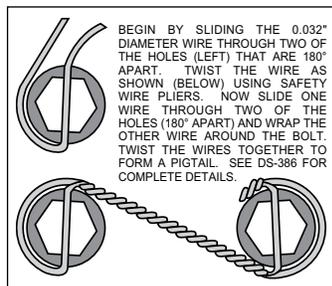
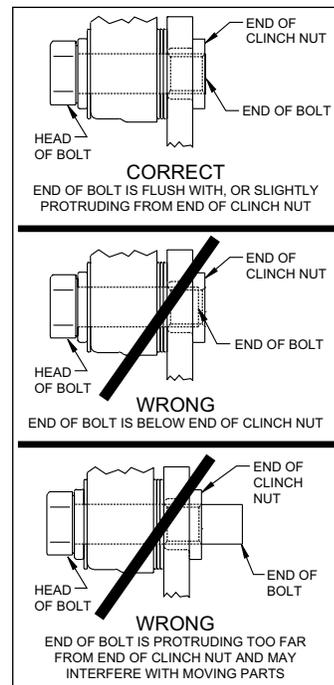

Figure 2. Safety Wire Diagram
Figure 3. Clinch Nut Engagement Diagram
CAUTION: All mounting bolts must fully engage clinch nuts. Be sure to check that all bolts are either flush or protruding through flanged side of clinch nut after shimming, Figure 3.
- Safety wire bolts using standard 0.032 inch diameter stainless steel safety wire as shown in Figure 2. Please refer to Wilwood's data sheet DS-386 (available at www.wilwood.com/Pdf/DataSheets/ds386.pdf) for complete safety wire installation instructions.
on each of the two mounting bolts. **NOTE:** The end of each bolt must be flush with or slightly protruding from the head of the clinch nut. If necessary, place spare shims between washer (9) and caliper mounting ear to achieve the proper clinch nut engagement, as shown in Figure 3. Once the caliper alignment and clinch nut engagement are correct, remove the bolts one at a time, apply red *Loctite*® 271 to the threads, and torque to 40 ft-lb. Safety wire bolts using standard 0.032 inch diameter stainless steel safety wire as shown in Figure 2. Please refer to Wilwood's data sheet DS-386 (available at www.wilwood.com/Pdf/DataSheets/ds386.pdf) for complete safety wire installation instructions.